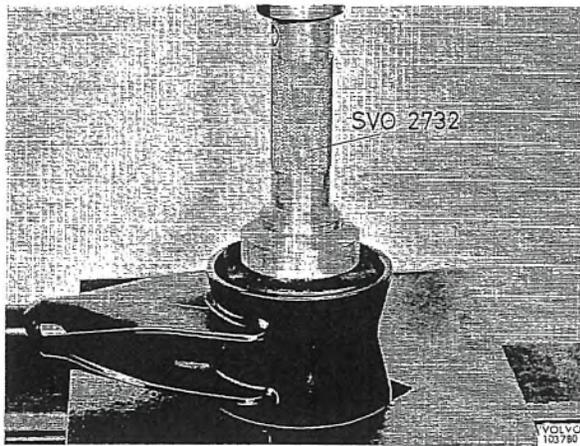

Fig. 7-11. Removing and fitting rear bush on torque rod
3. Press out the rear bush with 2732 (see Fig. 7-11).
5. Press in the rear bush with 2732 (see Fig. 7-11).